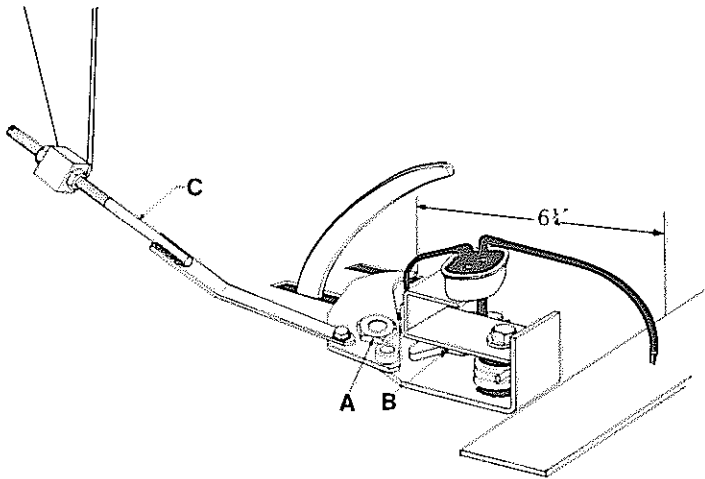

Fig. 22
This adjustment is made by loosening the twine finger anchor bolt (A) and knot sensor finger pivot bolt (B) and sliding them to the front or back of the slotted holes in the bale chamber top, see **Fig. 22**.
Measure the distance from the tip of the twine fingers back to the chamber brace behind the knotter, see Fig. 22. This measurement should be 6½ inches. Adjustment is made by lengthening or shortening the twine finger drive rods, see (C), Fig. 22.